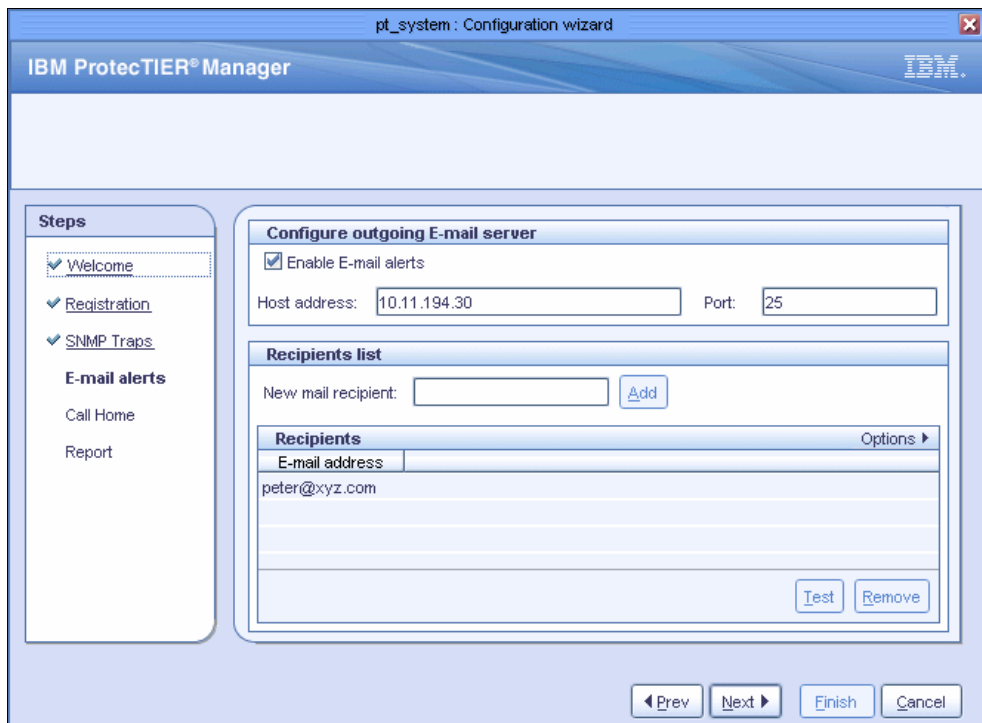

Figure 5-40 Configure outgoing E-mail server window
- a. Select the **Enable E-mail Alerts** check box. The E-mail alerts input fields become active, as shown in Figure 5-40.